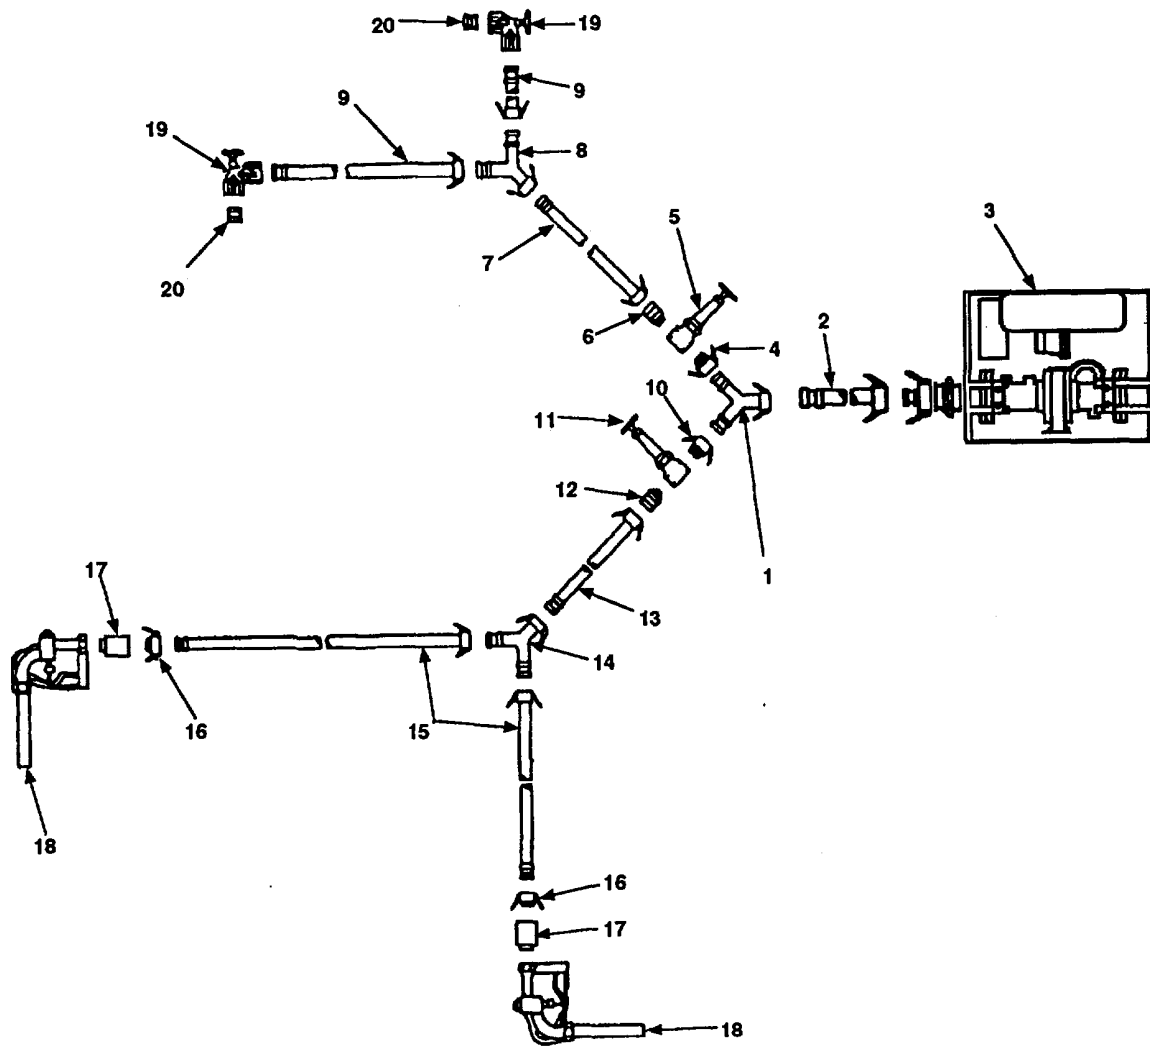

Figure 2-25. Distribution Point Assembly.
- ad. Connect discharge hose (5) to male quick-disconnect coupling half (4) on hypochlorination unit (2). Close cam arms.
- ae. Push cam arms on female quick-disconnect adapter on Y-connection (Figure 2-25, 1) forward to open position.